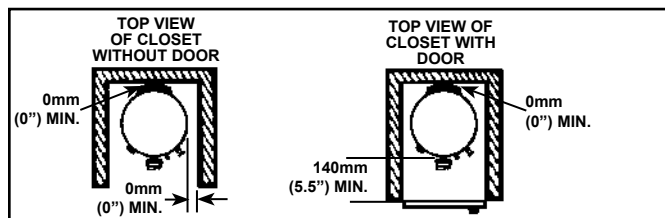
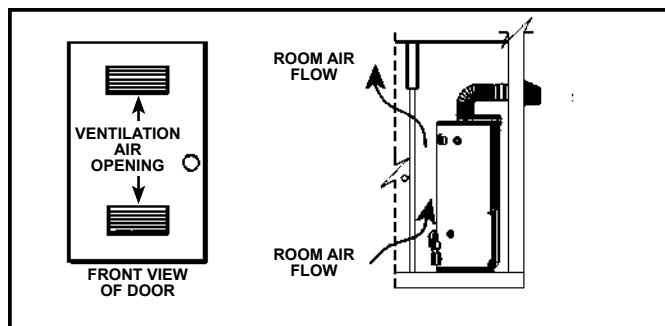

Figure 6
Figure 7
4. Carefully plan the place where you are going to put the water heater. Correct combustion, vent action, and vent pipe installation are very important in preventing death from possible carbon monoxide poisoning and fires (see Figure 6). Examine the location to ensure the water heater complies with the “Locating The New Water Heater” section in this manual.
When installed in a confined space such as a closet, it is recommended that the confined space be ventilated to minimize the buildup of heat around the heater. Figure 6 and Figure 7 show examples of ventilating a confined space.
Minimum clearances between water heater and combustibles are 0mm (0'') at the sides and rear, 140mm (5.5'') from the front and 305mm (12'') from top. Minimum clearances from vent piping to combustibles is 25mm (1'') except as noted in Figure 20. If clearances stated on the heater differ from these clearances, install water heater according to clearances stated on the heater (see Figure 6).